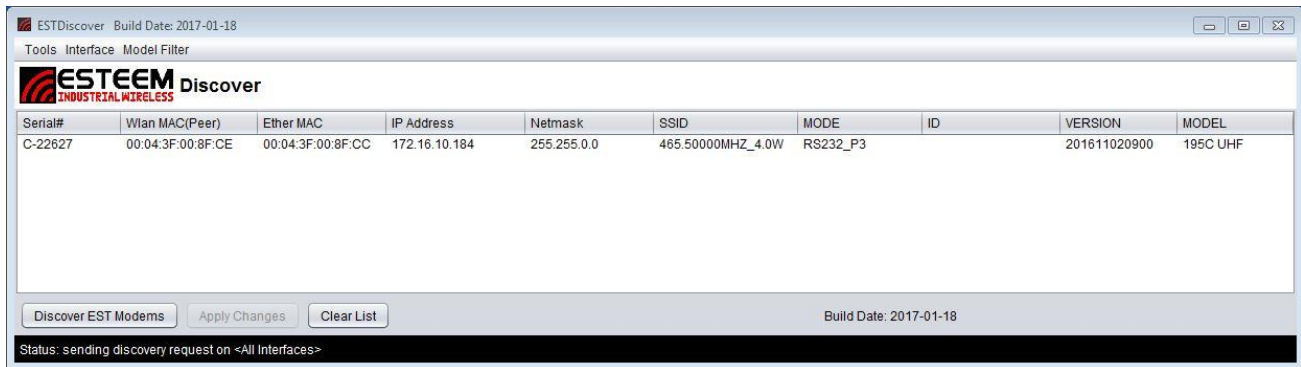

Figure 5: Discovery Found Radio
4. The ESTeem 195M will be displayed (Figure 5). If the ESTeem is not on the same IP subnet as the computer, double click on the IP, Netmask or Gateway and make the necessary changes. Press the *Apply Changes* button when complete.